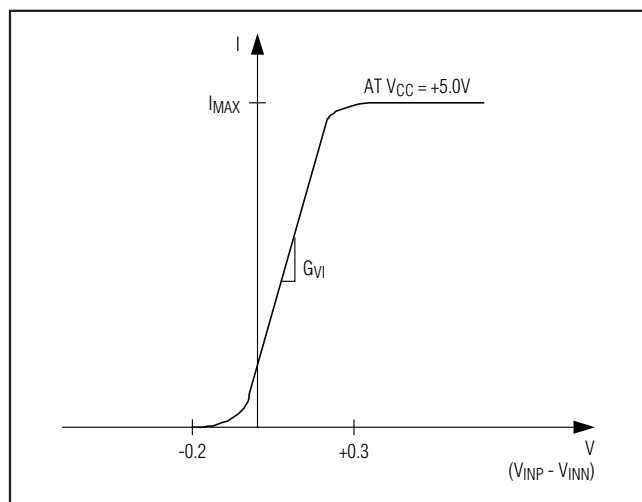

Figure 3. INP and INN Differential Inputs
Figure 3 shows the typical current behavior of the power-supply tracking circuit with respect to the voltage difference seen at the INP and INN inputs.
**START Condition:** A START condition is generated by the master to initiate a new data transfer with a slave. Transitioning SDA from high to low while SCL remains high generates a START condition. See Figure 3 for applicable timing.
**STOP Condition:** A STOP condition is generated by the master to end a data transfer with a slave. Transitioning SDA from low to high while SCL remains high generates a STOP condition. See Figure 3 for applicable timing.